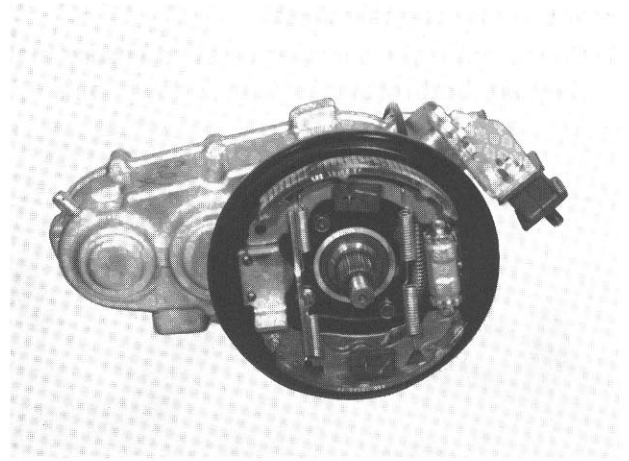

Fig. 14-64
- 6) Install the center brake backing plate in the rear case, referring to Fig. 14-64 for its correct installing position and angle.